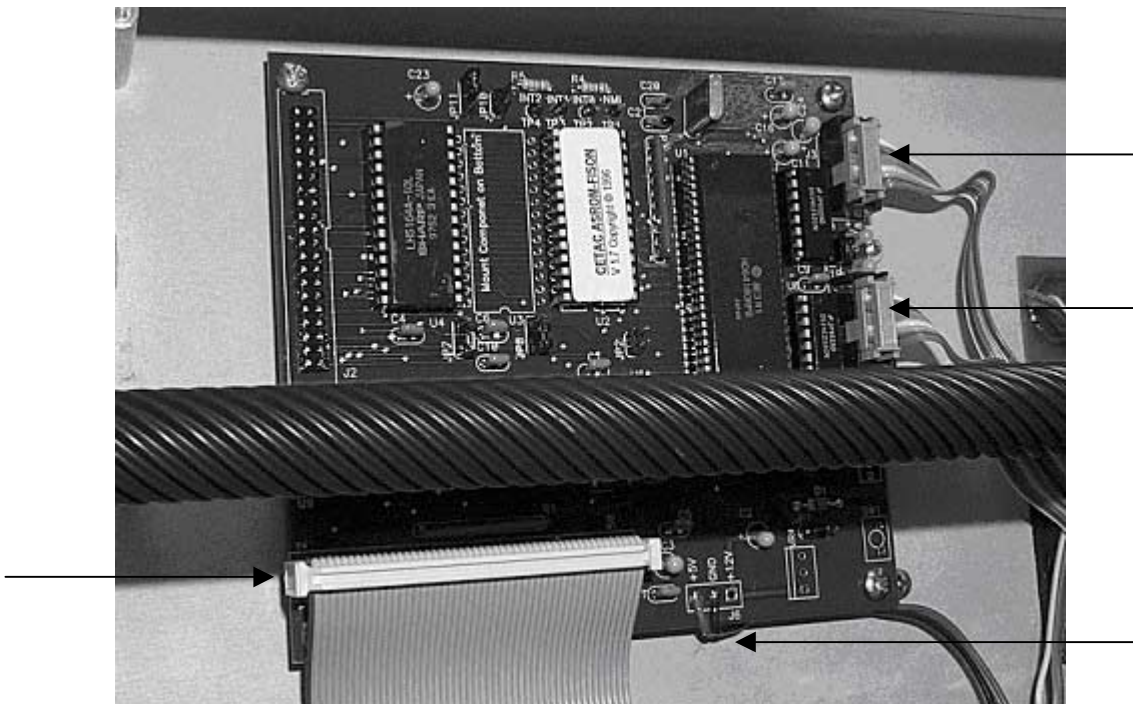

Figure 1-12. View of ASX-510 showing CPU board.
9. The circuit boards are now accessible. Remove all three ribbon cables that attach to the CPU board and the two pin Power IN connector. The four corner screws will also need to be removed. See Figure 1-12.